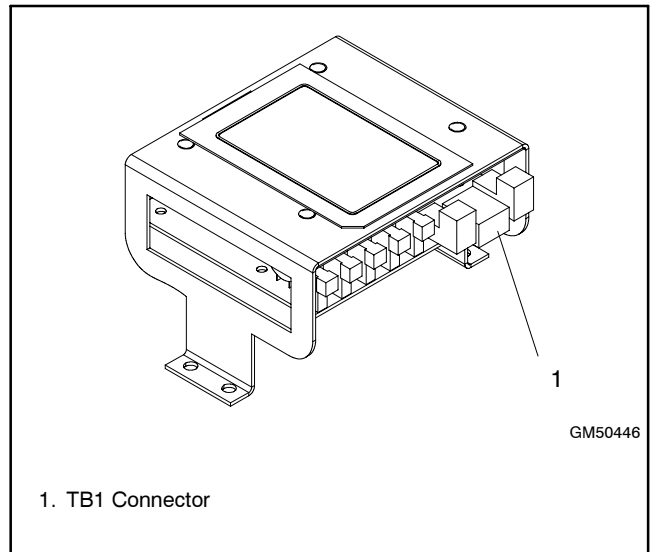
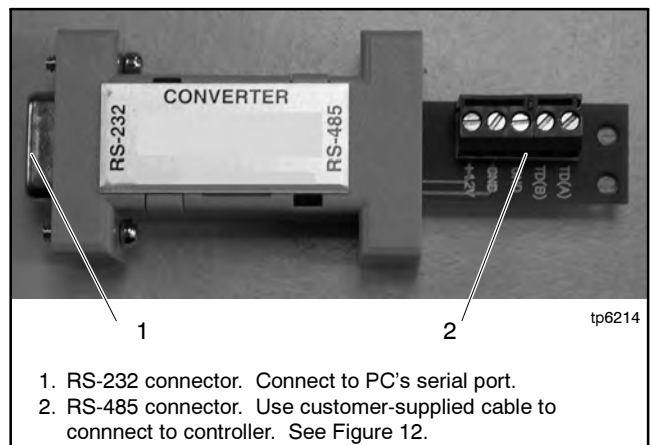

Figure 24 MPAC™ 550 ATS Controller
Figure 25 RS-232 to RS-485 Converter (available from the factory)
Use the Program Loader software version 2.7.0 or higher to load the controller application program onto the MPAC™ 550 ATS controller for the Model RSB Transfer Switch, shown in Figure 24.
7. Disconnect the communication cable from TB1 on the MPAC™ 550 controller. See Figure 24.
8. Use shielded twisted-pair cable (Belden #9841 or equivalent) to connect the RS-232 to RS-485 converter to the TB1 connector on the controller's main logic board. See Figure 24 and Figure 25.